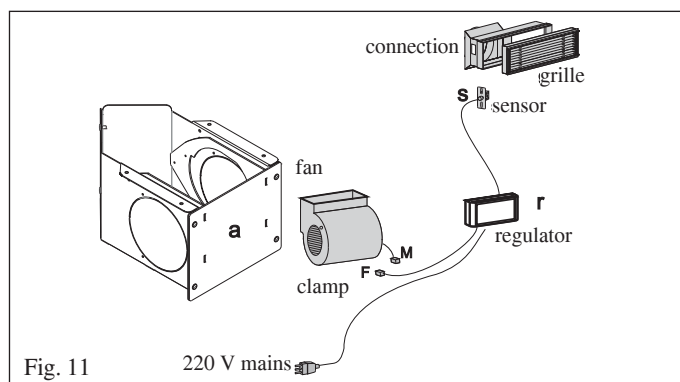
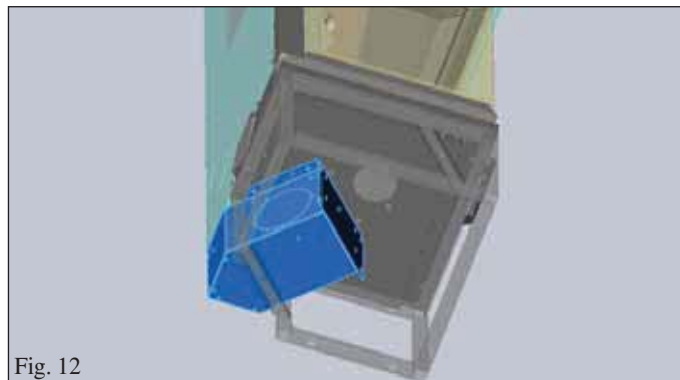

Fig. 11
Fig. 12
- The air box must be positioned below the base of the fireplace near its blind corner, fixed by means of the 4 screws provided (fig. 12).
- Take off the front part by removing the 4 screws (a - fig. 11).
- Connect the two connectors M and F (fig. 11) making the wire pass through the opening on the right or left side of the air box.
- Extend the electric wire from the regulator (r - fig. 11) to an electric socket.
- The wire with the sensor (s - fig. 11) must be extended to one of the hot air exit vents (b - fig. 12) normally positioned on the mantel.